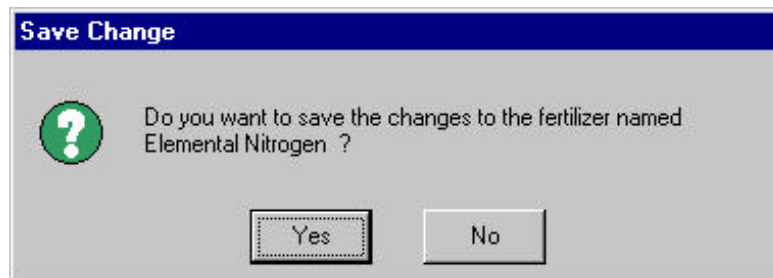

Figure 14.46
- e. A prompt box appears (Figure 14.46).